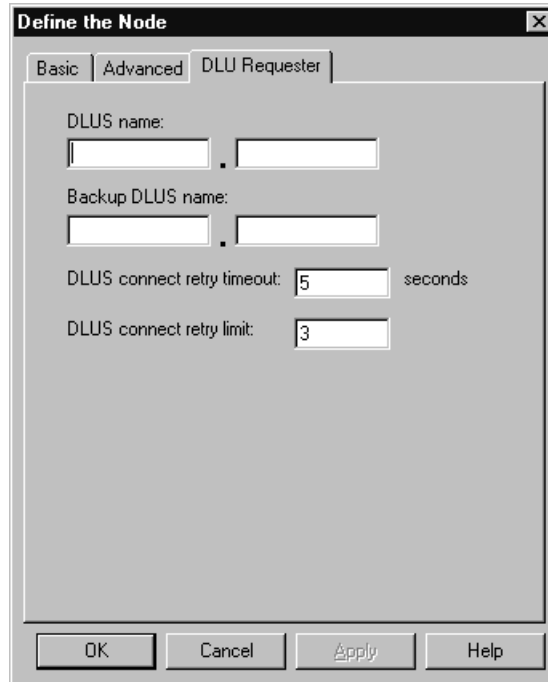

Figure 96. Define the node: DLU requester page
- 6 For DLUS connect retry timeout and DLUS connect retry limit, use the same values that are shown in Figure 96.